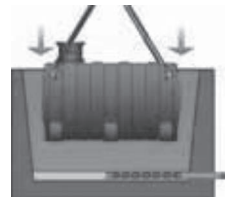

Fig. 2
3. Having ensured the integrity of the tank, move it empty (fig. 2), using the dedicated eyebolts, if present, or using a sling that is passed through the grooves of the structure.